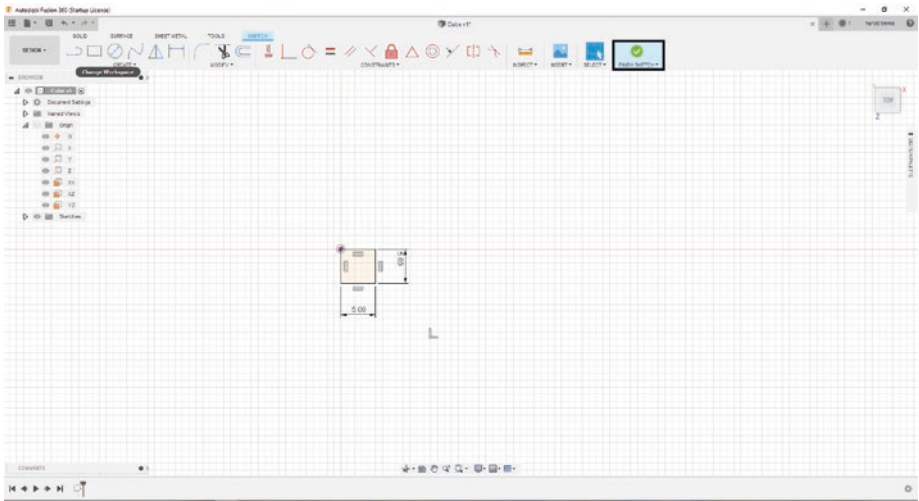

Figure 3-48. Click “FINISH SKETCH”
11. Select the “FINISH SKETCH” button to get out of sketch mode. See Figure 3-48.